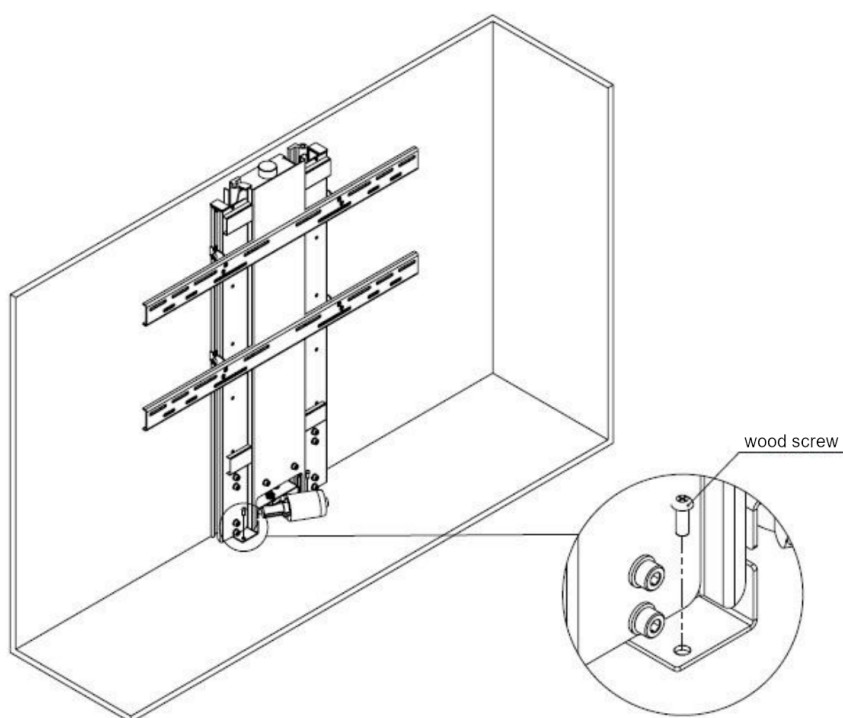

Fig.8.
3. Screw the screws into the furniture base in the places indicated in Fig. 8. In this case, you should also select the appropriate screw length.